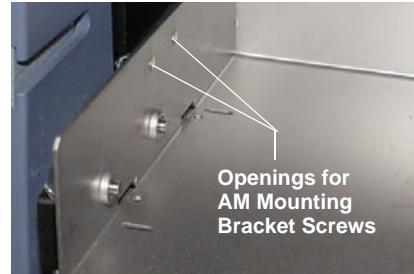

Figure B-29. *Openings for AM Mounting Bracket Screws (Left Side)*
6. For each bracket, align the two captive screws on the bracket with the openings on the AM component tray. See Figure B-28 for the right-side location and Figure B-29 for the left-side location. Tighten the screws.
- c. Press the guide onto the tray (see Figure B-29). Use a slotted screwdriver to tighten the attachment screws.